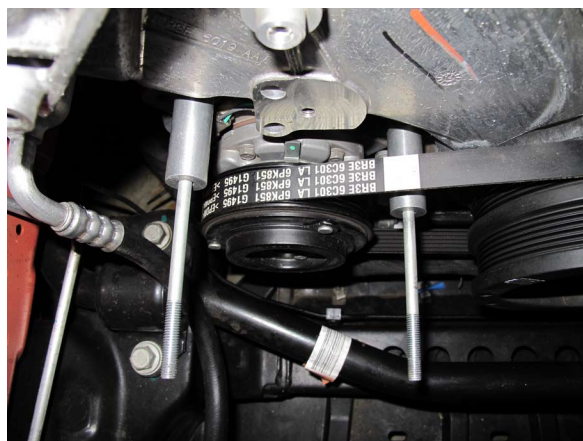

Fig. 3-g: Slide 2.058" & 2.146" Spacers Onto Studs
- H. As mentioned in the note in Step E, the 2x 2.730" spacers sandwiched in between the mounting plates are normally held in place by the 2x M8 x 200mm studs. During the installation of the mounting bracket assembly to the vehicle, make sure that the 2x M8 x 200mm studs pass through the mounting plates & both spacers. (See Fig. 3-h)